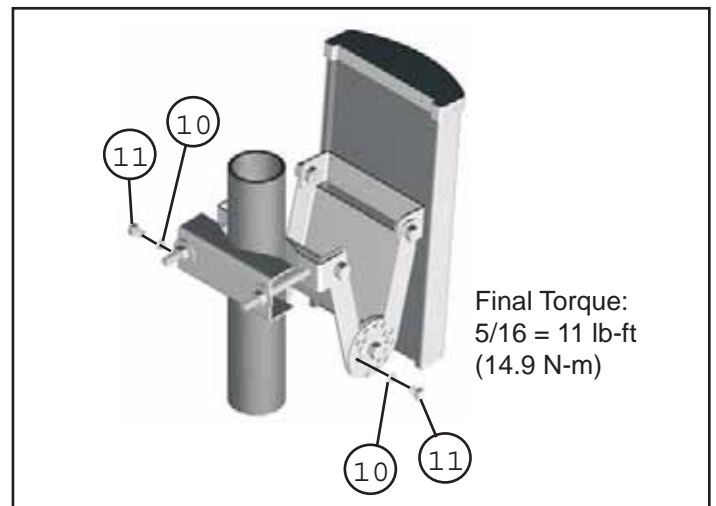

Figure 8. Securing the Downtilt Positioning Bracket.
4. Use the 5/16 inch hardware as shown in Figure 8 to secure the downtilt positioning. Tighten hex head bolts (Item 11) to 11 lb-ft (14.9 N-m).